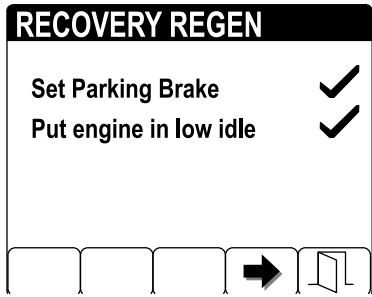

Figure 57
5. At the DPF checklist screen, verify that the parking brake is engaged, that the engine speed is set to low idle, press the button 4 to continue (Figure 57).